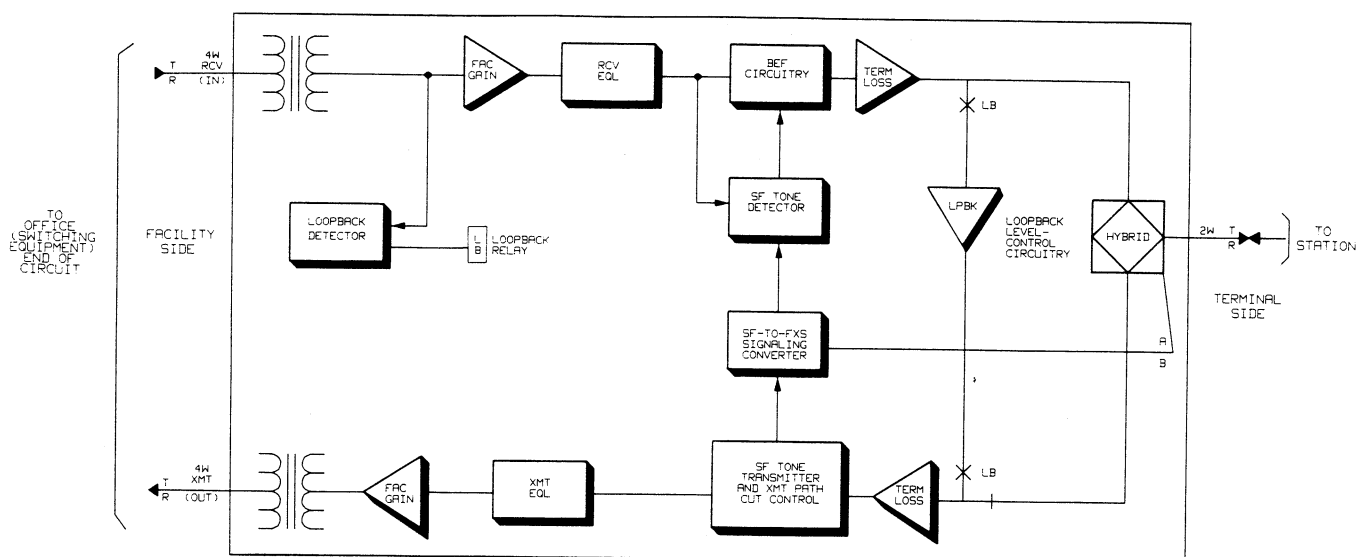

figure 6. Loopback route through 6123A
2.30 The SF tone detector and band-elimination filter (BEF) in the 6123A's signaling section can also be tested remotely when the module is in loopback. This is done by sending continuous SF tone at the proper level from the remote testing location. If the tone detector and BEF are operating properly, the SF tone will be removed by the BEF so that **no SF tone** is returned from the module's 4wire transmit port. Figure 6 shows the loopback path through the 6123A module.